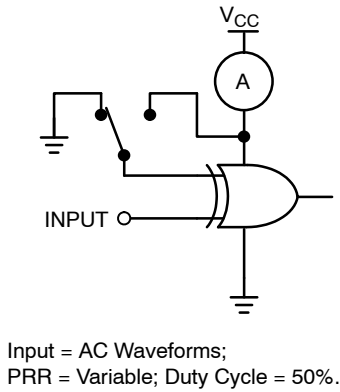

Figure 5. I_{CCD} Test Circuit
2. C_{PD} is defined as the value of the internal equivalent capacitance which is derived from dynamic operating current. Current consumption (I_{CCD}) at no output loading and operating at 50% duty cycle. (See Figure 5) C_{PD} is related to I_{CCD} dynamic operating current by the expression: $I_{CCD} = (C_{PD})(V_{CC})(f_{IN}) + (I_{CCstatic})$.